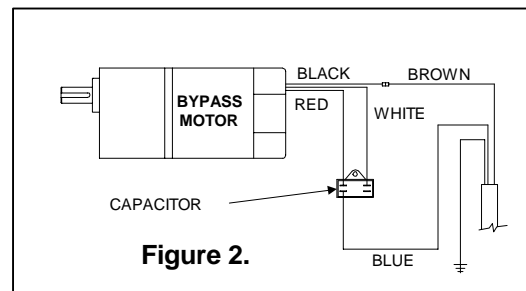

Figure 2.
8. Disconnect the Bypass Motor Harness from the Bypass Motor connection (Figure 2).